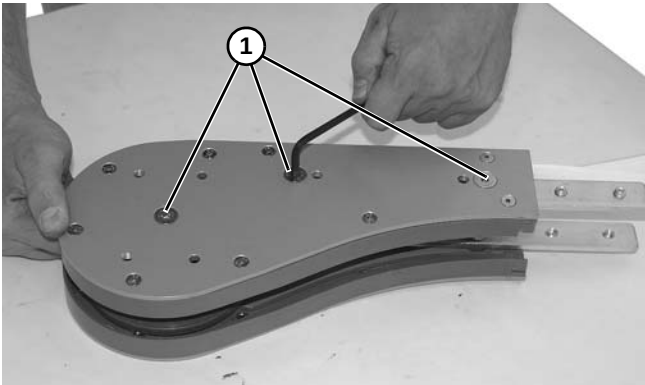

Figure 69
1. Remove three flat head screws (**Figure 69, item 1**).